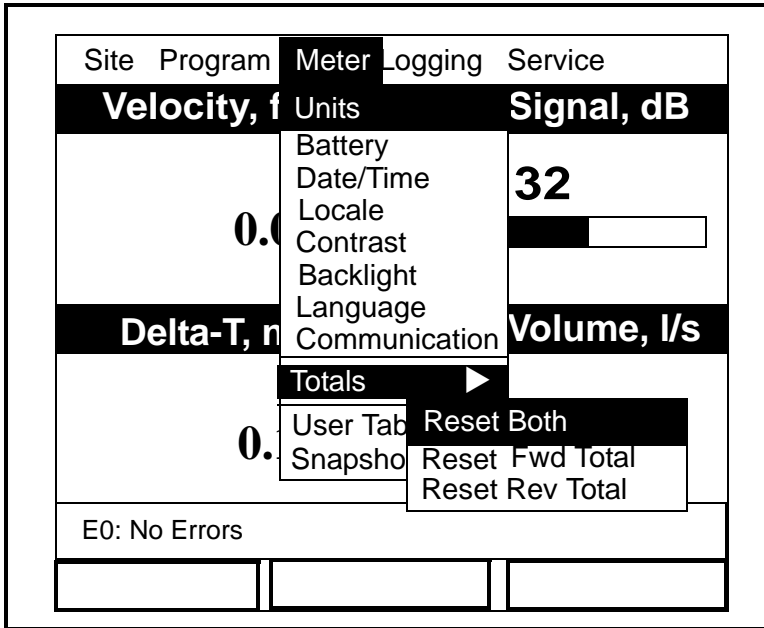

Figure 6-9: The Resetting Totals Menu
1. From the Meter menu, scroll to the Totals entry and press [ENTER]. The window now appears similar to Figure 6-9 below.